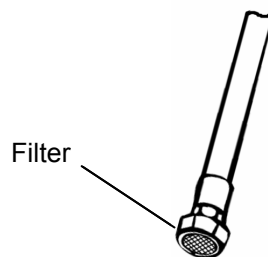

Fig. 4-1
1. Clean the filter attached on the edge of the suction hose for new oil. (See Fig. 4-1.)